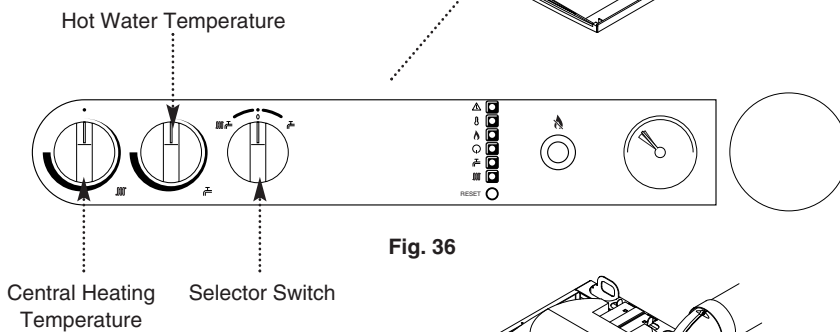

Fig. 36
2. Set the hot water temperature control to maximum and the selector switch to the OFF position (Fig. 36). Draw off all hot water to ensure that the store is cold
4. Turn the selector switch to the Domestic Hot Water position and press the white boiler reset button for 2 seconds (Fig. 36). Open a hot water tap to give a flow rate of at least 10l/min.